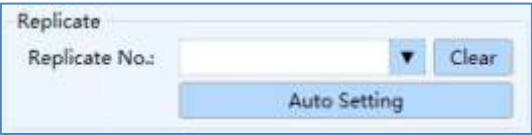

Figure D-6.5 Sample Setting interface - Replicate
- **Replicate:** according to experiment requirements, users can classify the same samples into one replicate group in the **Replicate** group setting box, as shown in figure D-6.5.